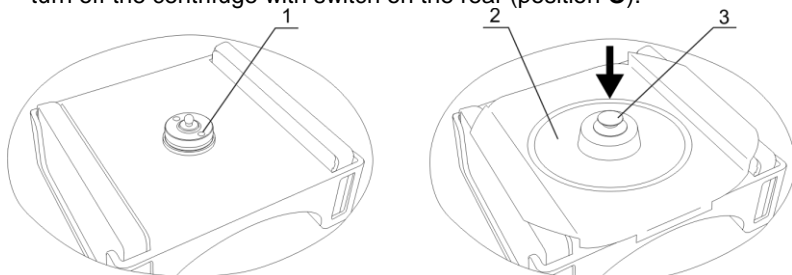

Fig. 1. Rotor replacement
- unscrew the fixation nut (Fig. 1/1) counter clockwise using the wrench included in standard set and remove the nut.
- place the rotor and secure it tightly with the fixation nut, placing the nut with the key holes up (Fig.1/1) and turning it clockwise by the included wrench.
- place the safety cover (Fig. 1/2) on the rotor by pressing the cover clip (Fig. 1/3) down;